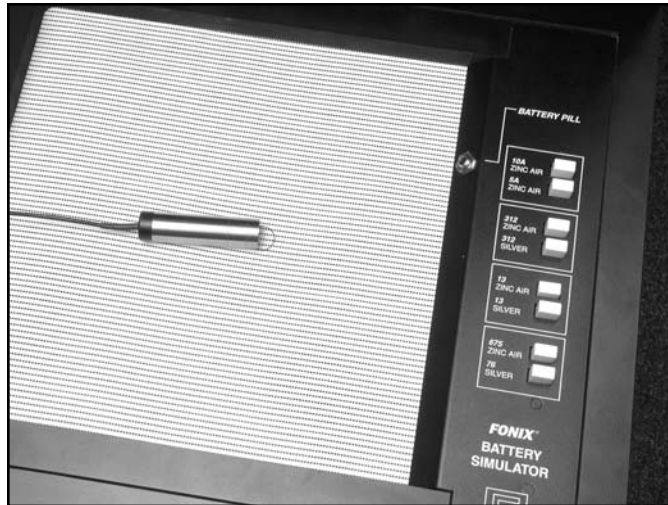

Figure 3.2.1—Leveling the sound chamber
2. Place the microphone on the left side of the sound chamber, with the microphone grill over the reference point (Figure 3.2.1). Close and latch the sound chamber lid.